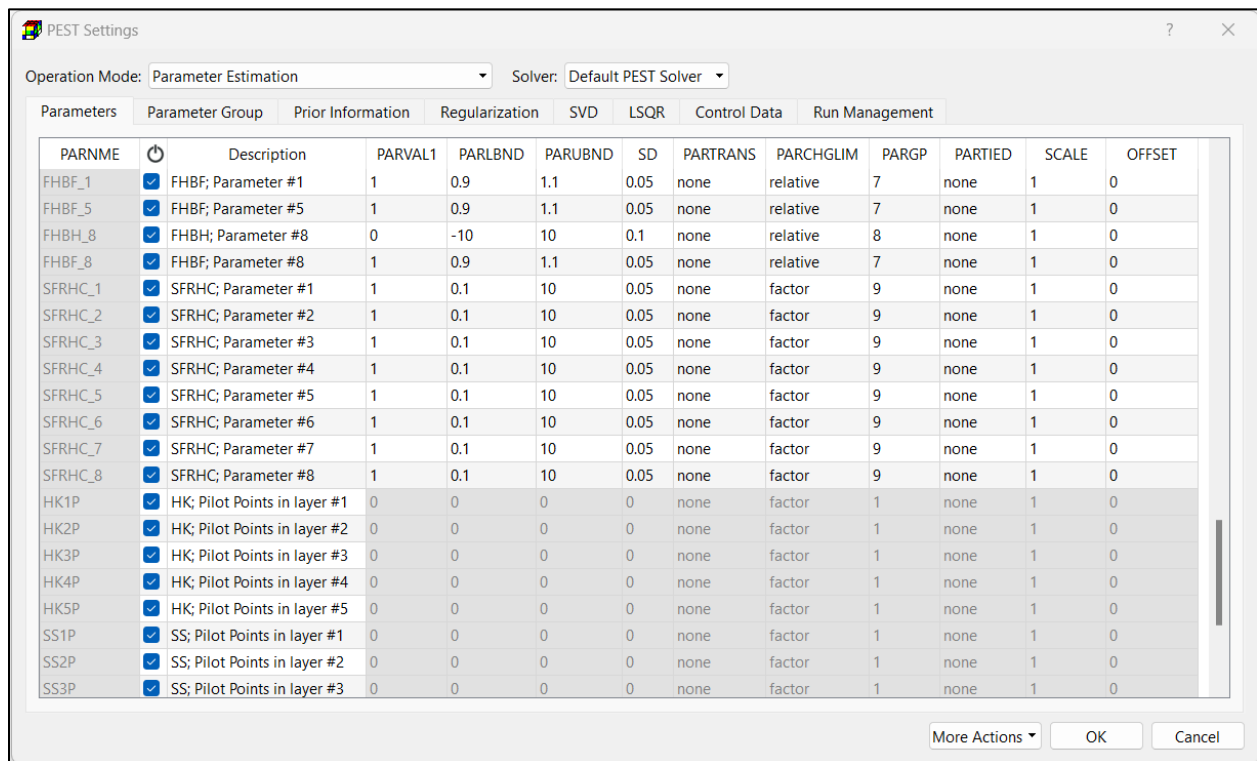

Figure 147. The Parameters tab of the PEST Settings dialog box
- Open the PEST Settings dialog box (Figure 147) by selecting *Models > PEST > Settings*.
Once adjustable parameters are defined, you can add them to the Parameters tab of the PEST Settings dialog box (Figure 147) by selecting *Model > PEST > Settings*. Each row of the Parameters table represents a zone-wise parameter or pilot points of an aquifer parameter in a model layer. If the PEST Settings dialog box is opened the first time, the defined parameters will be listed in the Parameters Tab. Otherwise, select *More Actions > Search for Parameters* in that dialog box to add new parameters.
PEST Settings refer to the configuration and control parameters specified in a PEST Control file (pest.pst). Most of the required data can be entered through the PEST Settings dialog box (Figure 147). The PEST Control file is a crucial component of model calibration, defining how the process is conducted through the key sections listed below. PM automates the management of these settings to streamline the calibration workflow. For a detailed explanation of each setting, refer to Section 3.9.5.2.
The required inputs and options for running PEST are specified in the PEST Settings dialog box (Figure 147), which includes several tabs and a few options. The variable names used in this dialog box are identical as those given in the PEST Manual (Doherty, 2016) and the PEST++ user guide. The available options are described below. The tabs are described in the next subsections.